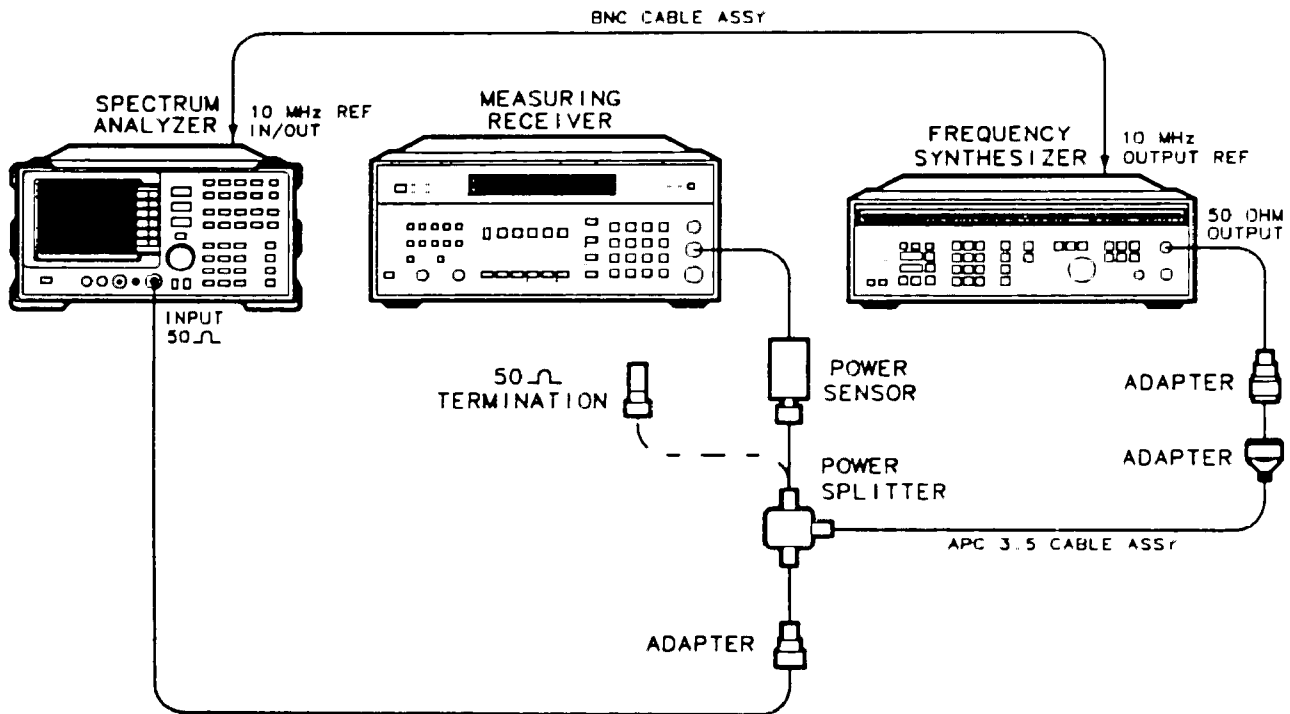

Figure 3-17. Frequency Response Test Setup, <50 MHz
49. Connect the equipment as shown in Figure 3-17.